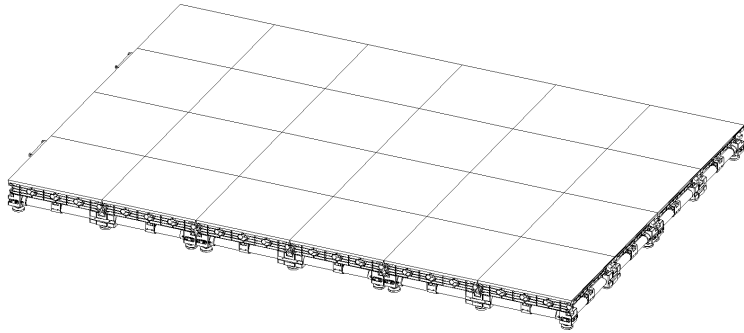

Figure 2.2.3
Step 2: Repeat step 1 to complete the installation of the entire floor tile screen (Figure 2.2.3).